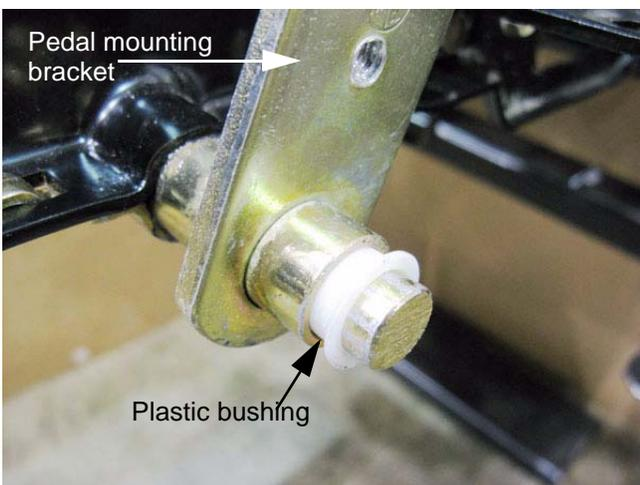

Figure 5.9
- 6c. The most likely causes for additional lost motion that would effect the ground speed of tractor are: See Figure 5.9.